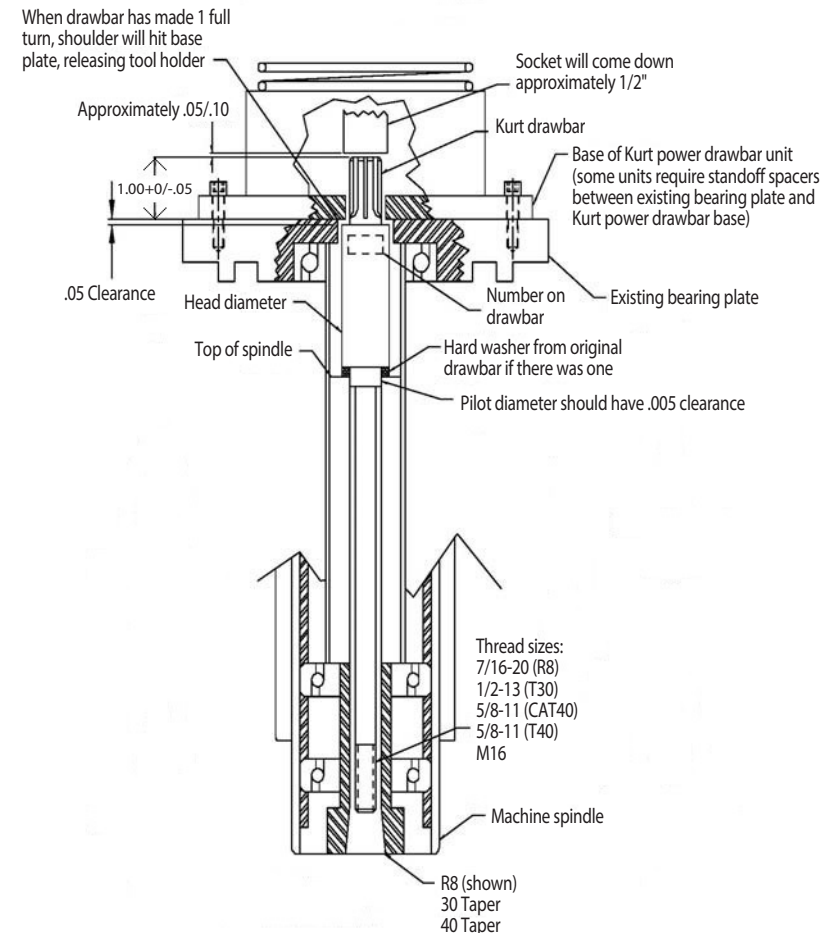

Figure 1
5. At the top of the machine, where the drawbar was inserted into the machine, is the machine bearing plate. The spline of the new drawbar should be protruding just above the bearing plate 1.000 \pm .000/-0.050. The shoulder just below the spline should be .050 to .100 below the top of the bearing plate. If it is short, double-check to make sure the quill is locked in the fully retracted position. (see FIGURE 1)
Drawbar Head Manufacturing *All callouts refer to Figure 1 on page 16